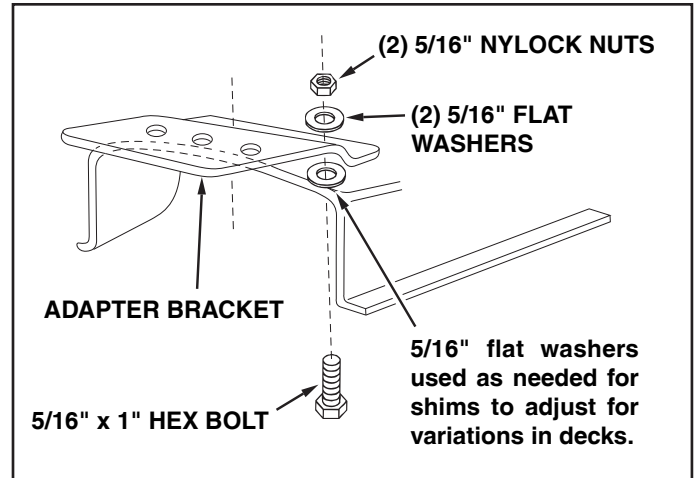

FIGURE 27
6. Assemble the adapter bracket to the deck using two 5/16" x 1" hex bolts, 5/16" flat washers and 5/16" nylock nuts. See figure 27.
NOTE: It may be necessary to use extra 5/16" flat washers to shim under the bracket next to the deck surface. Ten extra washers have been furnished as shims. See figure 27.